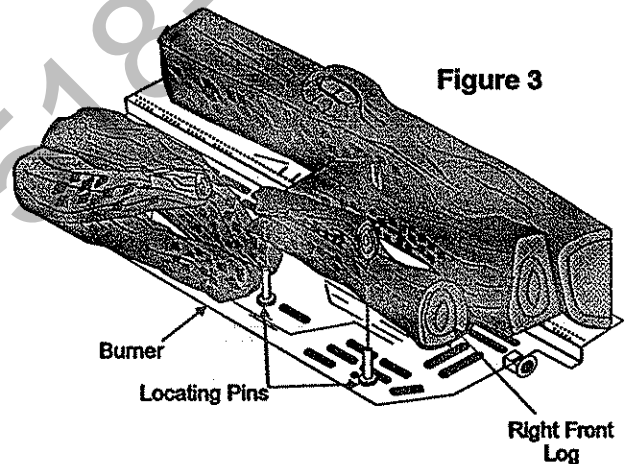

Figure 3
- 4) Place the right front log, carefully sliding it down onto the right pins of the front burner. See figure 3.